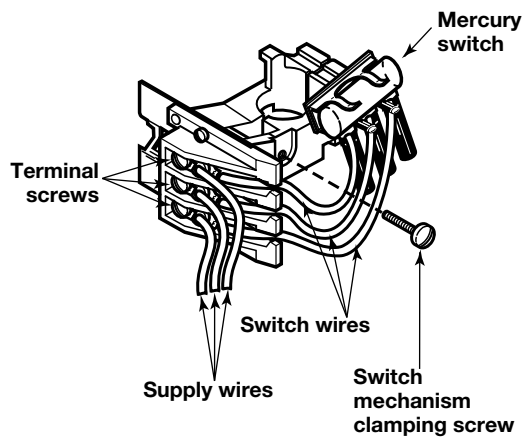

Figure 16
8. Switch mechanism wires move as the switch pivots; control wires must not touch or interfere with mechanism wires. Refer to Figures 16 and 17 on page 16 for wiring with two different terminal block configurations.